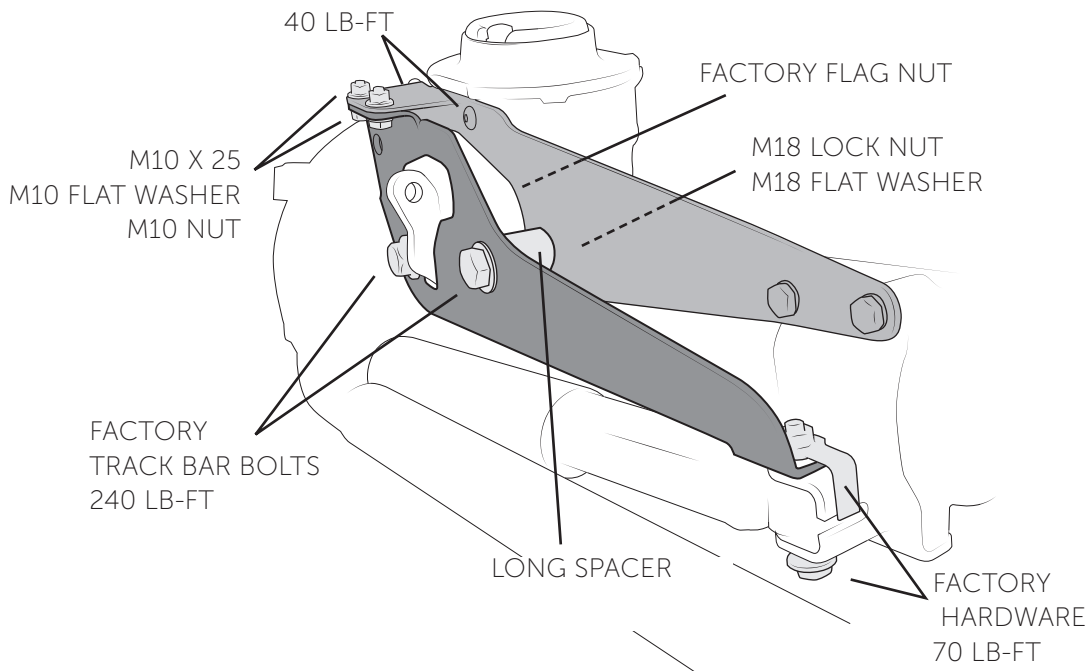

Figure 21 (sway bar link removed for clarity)
- E. Install the supplied hardware, factory hardware, and spacers into forward track bar bracket. Leave loose at this time (fig. 21).